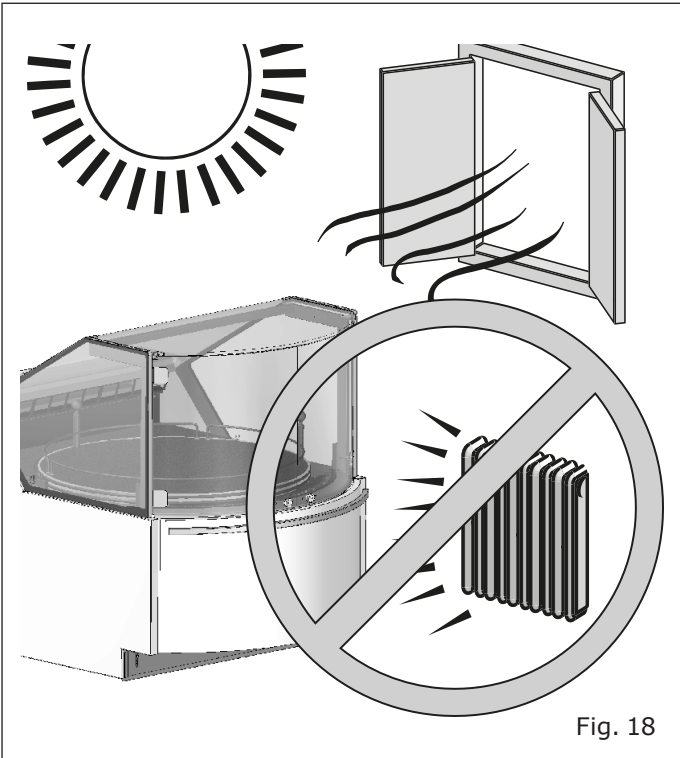

Fig. 18
- Far from heat sources, from the direct radiation of the sun, from doors, windows, fans and air vents ("Fig. 18").